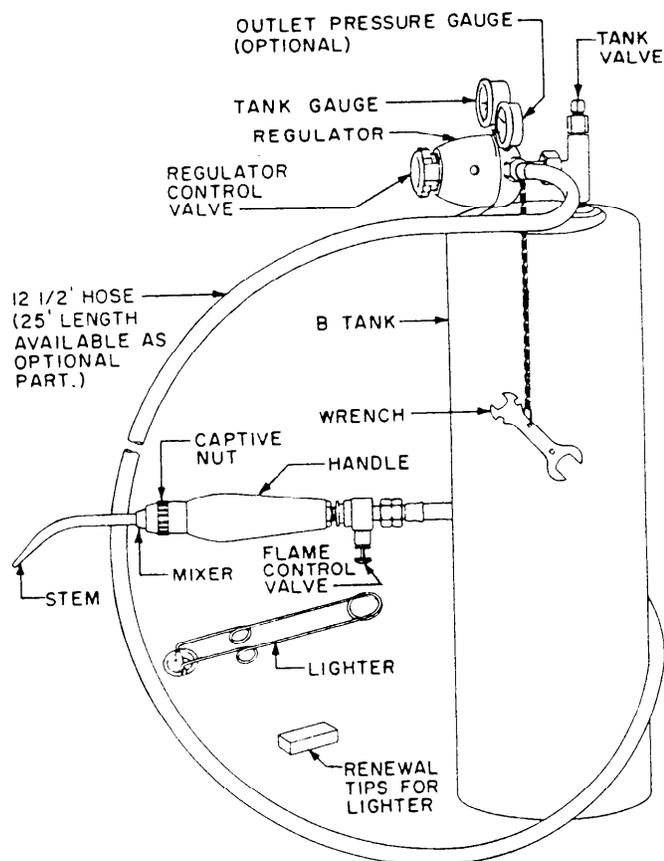

Fig. 4 - D Acetylene Torch Connected to B Tank
8.03 The D acetylene torch, illustrated in Fig. 4, should be adjusted as follows: